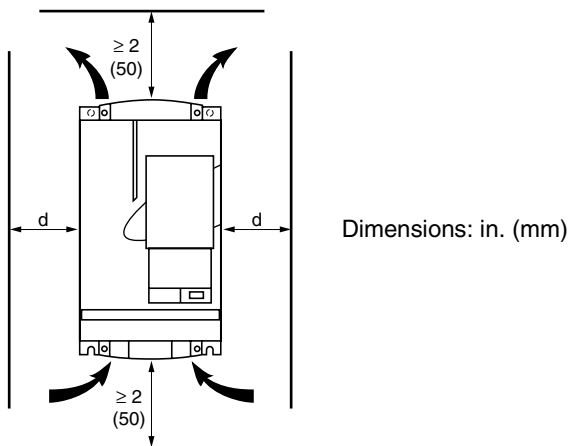

Figure 6: Minimum Clearances: ATV58HU18N4 to D23N4
- Figures 6–8 on pages 27–28 show the minimum clearances required around each drive controller for unobstructed air flow. **Do not** use these clearances as the minimum enclosure size for proper thermal dissipation.
Mounting and Temperature Conditions (Refer to Figures 6–8)